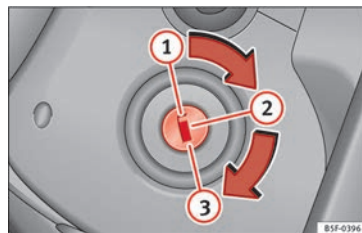

Fig. 173 Ignition key positions.
In this position » **Fig. 173**, the ignition and the engine are OFF and the steering may be locked.
- Turn the ignition key to position »» Fig. 173 ②. The warning lamp ⚡ will light for engine pre-heating.
- When the lamp turns off, turn the ignition key to position ③ to start the engine. Do not press the accelerator.
- Turn the ignition key to position » **Fig. 173**